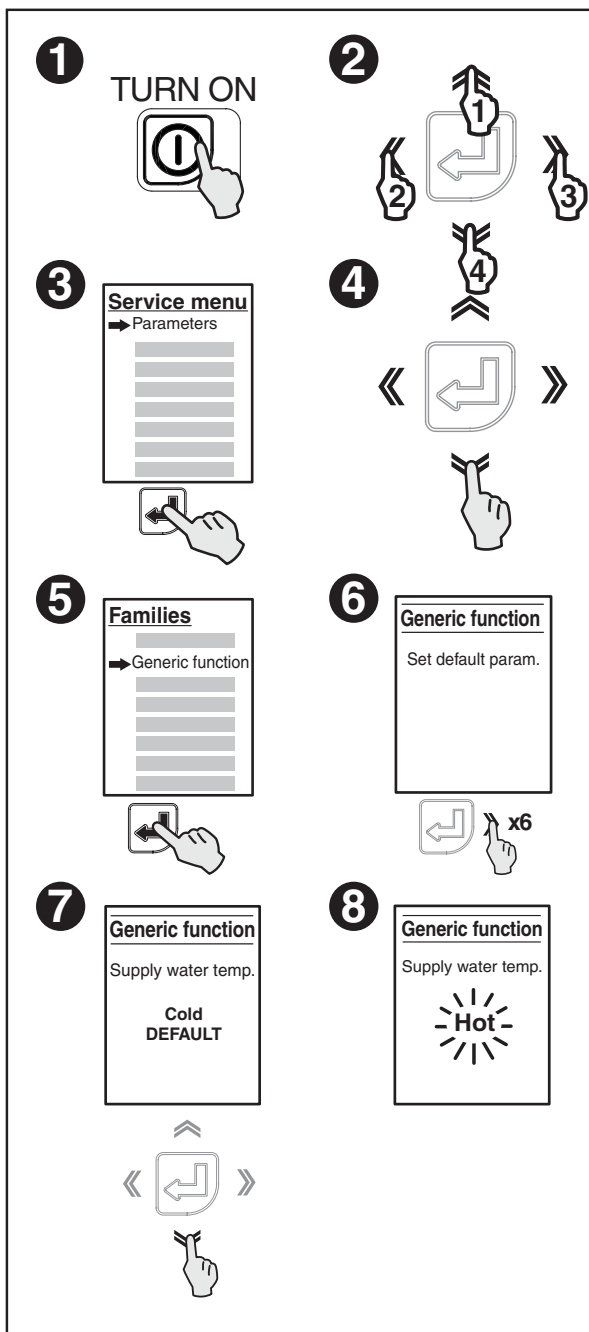

Figure 31 Setting wash temperature
- Press the On/Off key (point "1" - Figure 31) to turn on the machine.
- Press sequentially (not more than 3 seconds between each press) the up, left, right and down buttons to access the Service menu (point "2" - Figure 31).
- Press the confirmation key to enter in the "Parameters" menu (point "3" - Figure 31).
- Press the DOWN arrows key one time to choose the "Generic function" menu and confirm it (point "4-5" - Figure 31).
- Press RIGHT arrows key six times (point "6" - Figure 31), looking for "supply water temp." parameter.